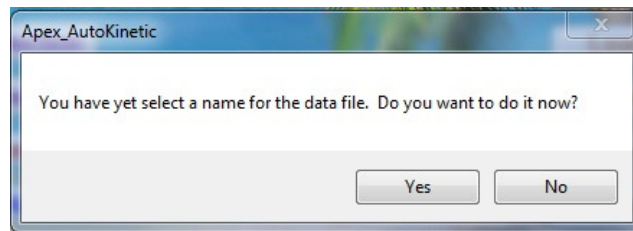

Figure 47 - Save Data File Pop-Up Window
- i) From the Main Menu, click the **Pre\_Leak Test** button to open the Leak Test Menu Screen. If a pop-up window is displayed, see Figure 47, below, indicating that the Test Data File has not yet been named, click the **Yes** button to name and save the file.